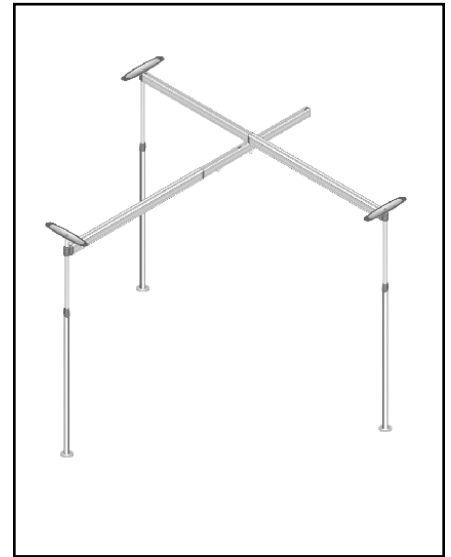

Figure 27
- 26. See Figure 27 for photo of assembled 3-Post Easytrack System.
- ✓ Check your installation against Figure 27.